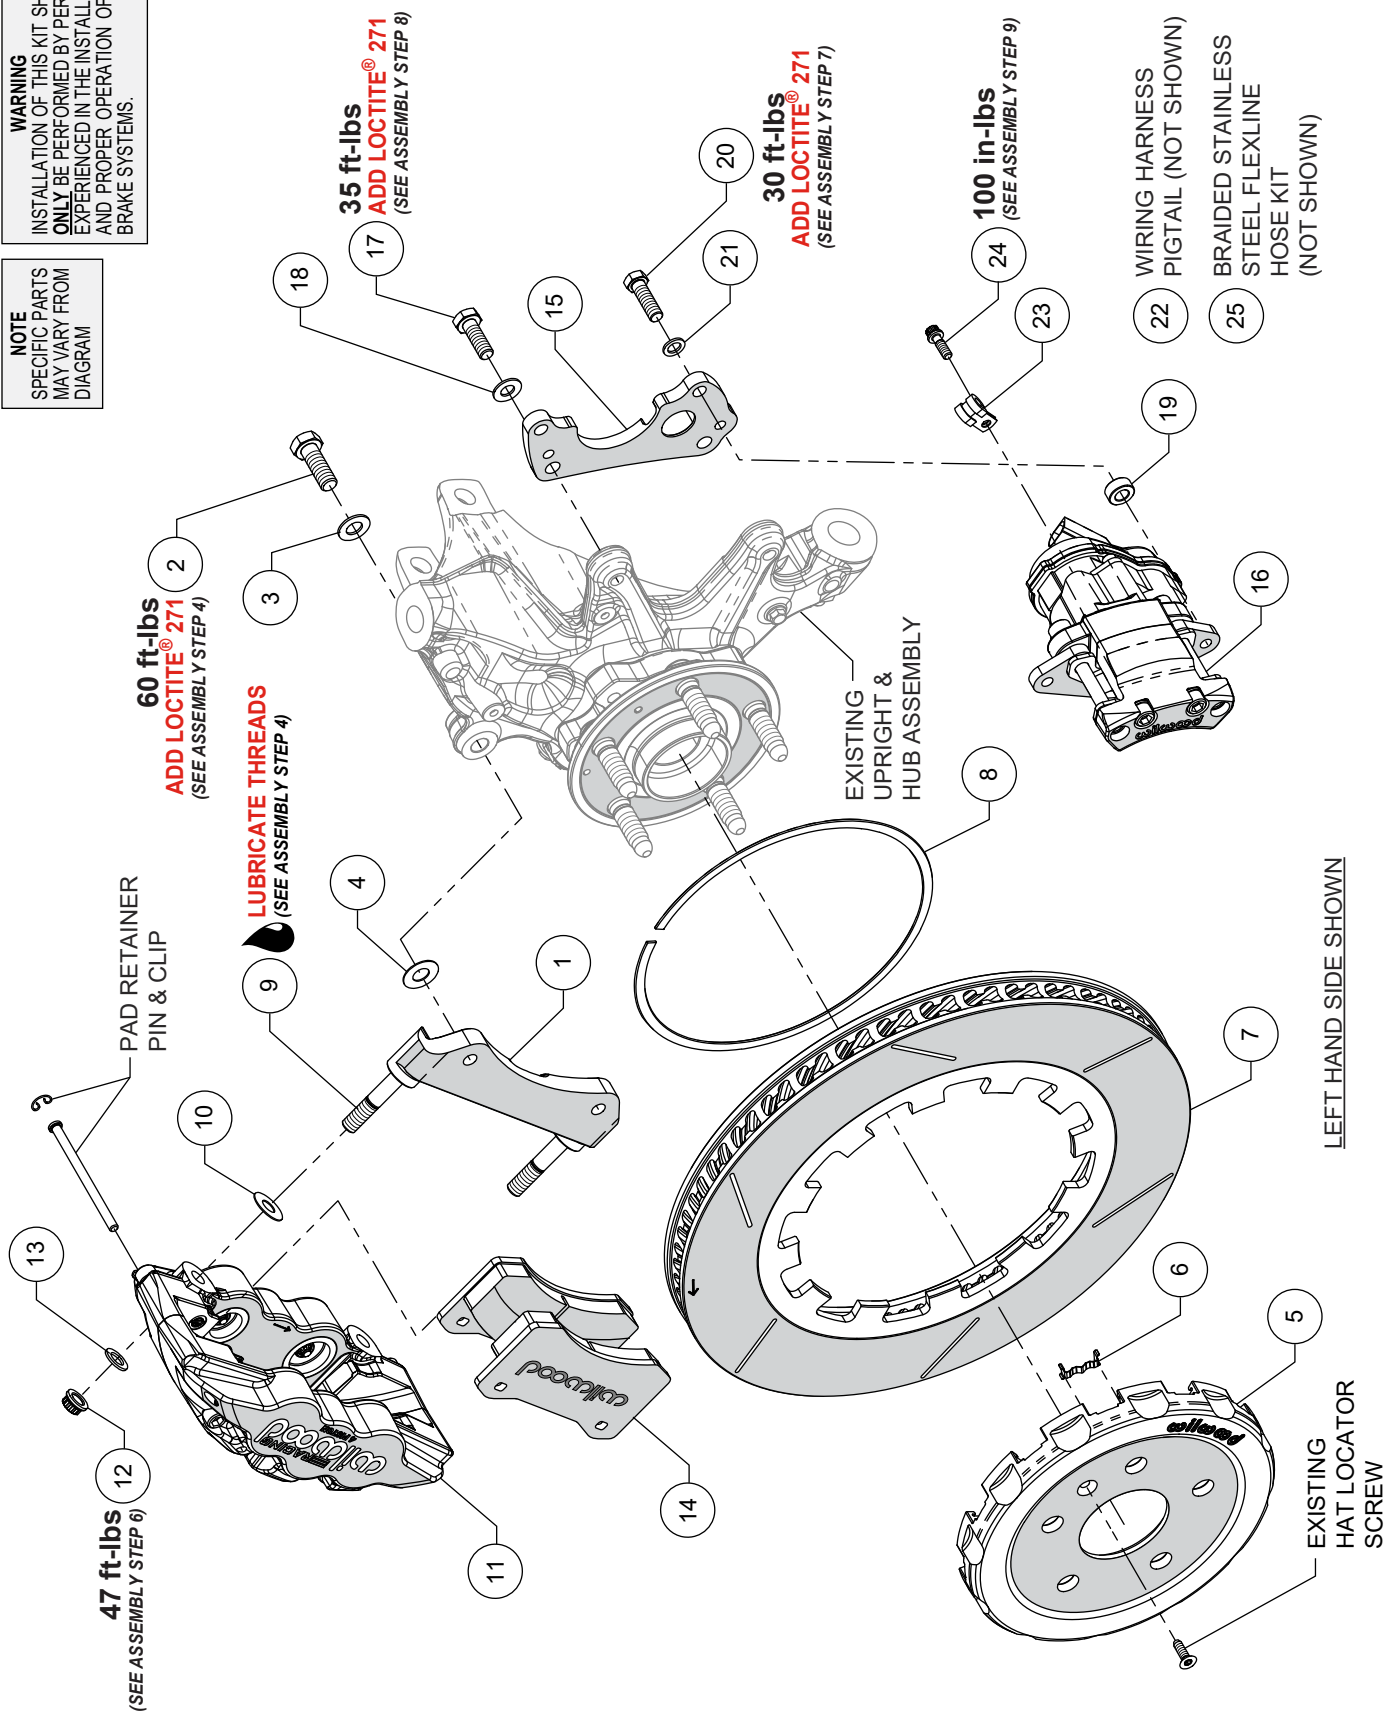

Figure 1. Typical Installation Configuration
NOTE: Numbers in parenthesis refer to the parts list and Figure 1 on the preceding pages.
STEP 1 The caliper mount bracket (1) should initially be installed with clean, dry threads on the mounting bolts. Orient the bracket, as shown in Figure 1 and Photo 1, and install using bolts (2) and washers (3). Initially place one .033" thick shim (4) on each bolt between the bracket and upright, Figure 1. Temporarily tighten the mounting bolts. **NOTE:** The bracket must fit squarely against the mount bosses on the upright. Inspect for interference from casting irregularities, machining ridges, burrs, etc. Later, after the caliper alignment has been checked, the mount bolts will be secured using red Loctite® 271.
STEP 2 Insert the dynamic mount wear clips (6) into the slots in the hat (5), Photo 2 and 3. Orient the rotor (7) as shown in Figure 1 and Photo 4, with the flush side of mount lugs facing the hat. Secure the rotor to the hat using the snap ring (8) by simultaneously pushing down on the rotor and installing the ring into the groove in the hat, as shown in Photo 5. **Carefully inspect snap ring to ensure complete engagement in the groove.**
STEP 3 Slide the hat/rotor assembly onto the axle hub, Photo 6. **NOTE:** The hat must fit flush against the axle hub flange or excessive rotor run out may result. Install the hat locator screw (OEM), as shown in Figure 1, to keep the hat/rotor assembly in place while continuing with the installation.
STEP 4 **NOTE:** This kit contains distinct right and left hand calipers that must be mounted in a specific direction, as described below. Lubricate the caliper mounting studs (9) with lightweight oil. Initially place one .030" thick shim (10) on each stud between the caliper and the bracket, as shown in Figure 1 and Photo 7. Mount the caliper (11) onto the bracket (1) using lock nuts (12) and washers (13), Figure 1. Temporarily tighten the lock nuts. Ensure that the caliper is mounted so the largest pistons are at the rotor exit end of the caliper, in relation to the forward direction of the rotor. View the rotor through the top opening of the caliper. The rotor should be centered in the caliper, Photo 8. If not, adjust by adding or subtracting shims (4) between the bracket and the upright. Always use the same amount of shims on each of the two mounting bolts. Once the caliper alignment is correct, remove the bracket mounting bolts (2) one at a time, apply red *Loctite*® 271 to the threads, and torque to value shown in Figure 1.
STEP 5 Remove the caliper (11) from the bracket (1), then remove the clips and pad retaining pins from the caliper. Insert the brake pads (14) into the caliper from the bottom side, with the friction material facing the rotor, as shown in Photo 9. Secure the brake pads in place with the pad retaining pins and clips, Figure 1 and Photo 10.
STEP 6 Reinstall the caliper onto the caliper mounting bracket and temporarily tighten the lock nuts (12). Check that the top of the brake pad is flush with the outside diameter of the rotor, Photo 11. If not, adjust by adding or subtracting shims (10) between the caliper and the bracket. After the caliper pad height is set, torque the caliper lock nuts (12) to value shown in Figure 1.
STEP 7 Attach EPB caliper mounting bracket (15) to EPB caliper (16) using bolts (20), washers (21), and spacers (19) as shown in Figure 1 and Photo 12. Apply red *Loctite*® 271 to the bolt threads, and torque to value shown in Figure 1.
STEP 8 Mount the EPB caliper assembly (15 thru 19) to the mounting bosses of OEM upright using bolts (17) and washers (18) as shown in Figure 1 and Photo 13. **NOTE:** The bracket must fit squarely against the mount bosses on the upright. Inspect for interference from casting irregularities, machining ridges, burrs, etc. Apply red *Loctite*® 271 to the bolt threads, and torque to value shown in Figure 1.
STEP 9 Connect OEM electronic parking brake wire harness to Wilwood electronic parking brake using included wiring pigtail harness (22), Photo 14. Secure wiring pigtail harness to unused threaded hole on EPB housing using clamp (23) and bolt (24), Photo 14. Torque bolt to value shown in Figure 1. Carefully bend clamp over as shown in Photo 14 to provide maximum wheel clearance. **Ensure wiring is routed to prevent contact with moving suspension, brake or wheel components.**
STEP 11 Attach supplied brake line to caliper. **NOTE:** OEM rubber brake hoses generally cannot be adapted to Wilwood calipers. Install Wilwood's stainless steel braided flexline hose kit (25), P/N 220-17008 included with this kit. The caliper inlet fitting is a 1/8-27 NPT. Use the included steel adapter fitting at